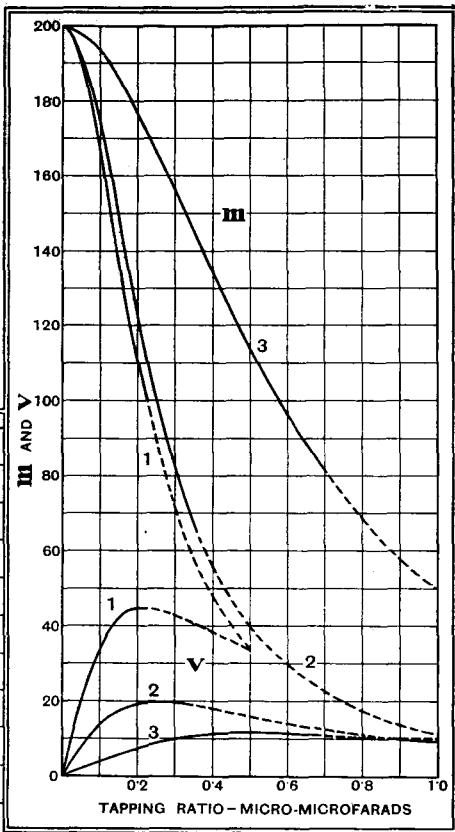

Fig. 3.—Effects of variations in inductive coupling; conditions otherwise as in Fig. 2.
(3) For a given receptivity, a large aerial gives most selectivity. Thus, in Fig. 3, when aerial (2) gives a  $v$  of 20, the  $m$  is 100. But with aerial (1) the  $m$  is 192 for the same  $v$ . Added to that, the large aerial picks up more signal, so if desired the coupling can be made still looser without sacrificing any signal strength. This explodes the theory that a small aerial is more selective.
(5) But the capacity effect of the aerial on the tuned circuit is less with the inductive coupling. If, then, a capacity limit is fixed, such as the 25 m.mfds. here chosen, the inductive system offers a wider range of adjustment, and therefore may well give better results. In Fig. 3, aerial (1) permits a receptivity of 45 without exceeding the 25 m.mfd. limit. The capacity coupling (Fig. 2) allows only 20. The necessity for limiting the capacity effect is not only because too high a minimum capacity makes it impossible to tune low enough in wavelength, but also because the effective capacity due to the aerial is not absolutely constant at all wavelengths, and even if "trimmed" at one point on the scale it throws the ganging out elsewhere.